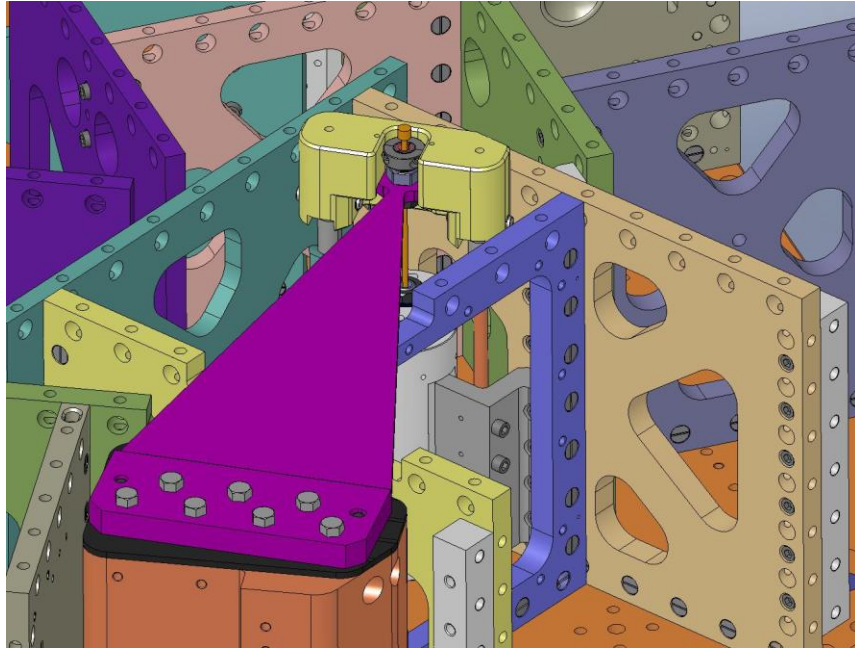

Figure 3.97. Shaft collars will be used to clamp the top of each Flexure to its Flexure Mount. The screw heads must face outward.
- Place a shaft collar (McMaster-Carr #9633T15) around the top of each **Flexure Mount**, as shown in Figure 3.97. Leave the collar loose, so the **Flexure** can slip in and out of the **Flexure Cups** without a lot of force.